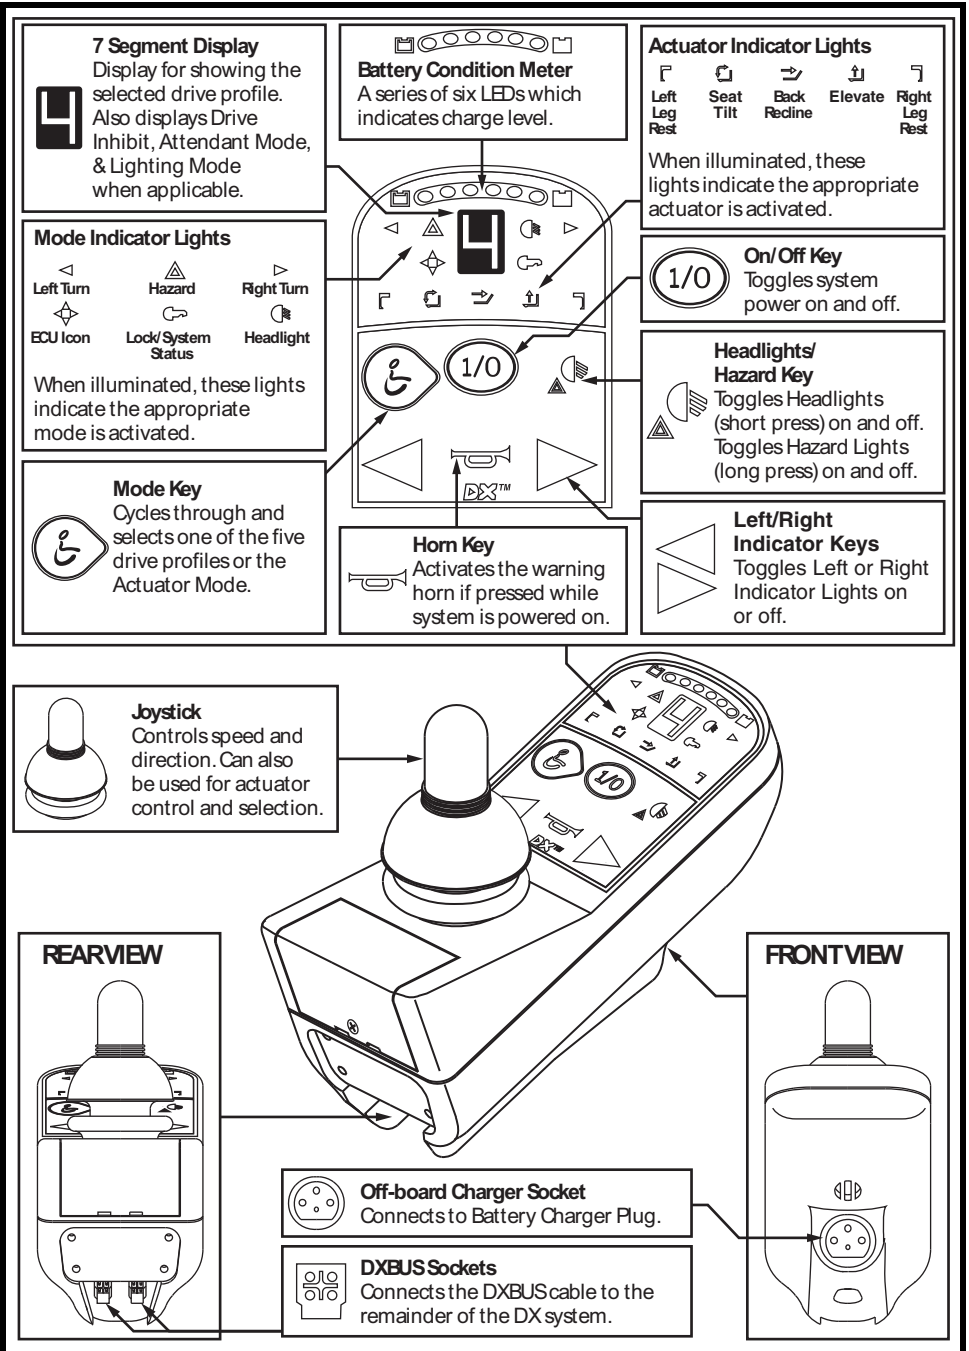

Figure 1. Dynamic G90 Components and Connections
Figure 1 provides information on the Dynamic G90 components and connections. Use this diagram to familiarize yourself with the function and location of each component before using the Dynamic G90 controller.
You may use an off-board charger to charge the power chair batteries through the 3-pin socket located on the front of the Dynamic G90 (see figure 1). If you use an off-board charger, the charger current should not exceed 8 amps. Contact your authorized Pride Provider for more information.
1. Press the mode key until the desired actuator is indicated by the indicator lights located below the display. See figure 1.